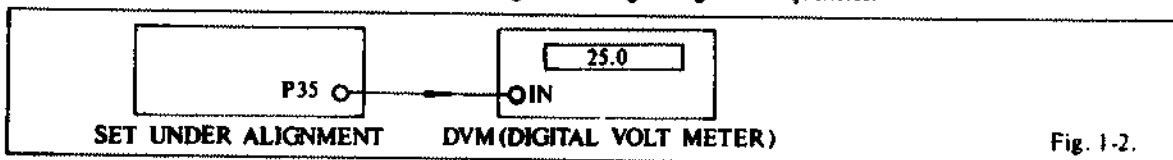

Fig. 1-2.
- Set up the test equipment as Fig. 1-2.